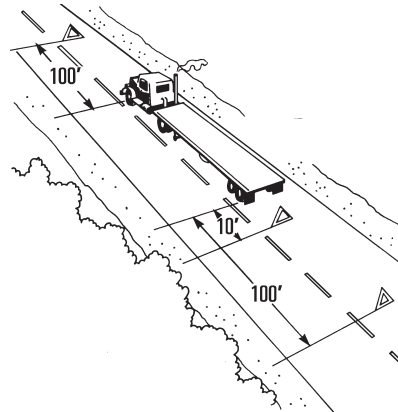

Figure 2-5 Two Lane or Undivided Highway
- On a two-lane road with traffic in both directions or on an undivided highway, place warning devices within ten feet of the front or rear corners to mark the location of the vehicle and 100 feet behind and ahead of the vehicle, on the shoulder or in the lane in which you stopped. (Figure 2-5)
- On the traffic side of the vehicle, within ten feet of the front or rear corners, to mark the location of the vehicle. (Figure 2-5)